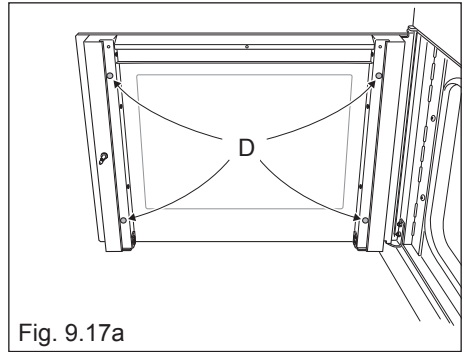

Fig. 9.17a
- Check that the four rubber pads are in place ("D" in fig. 9.17a).